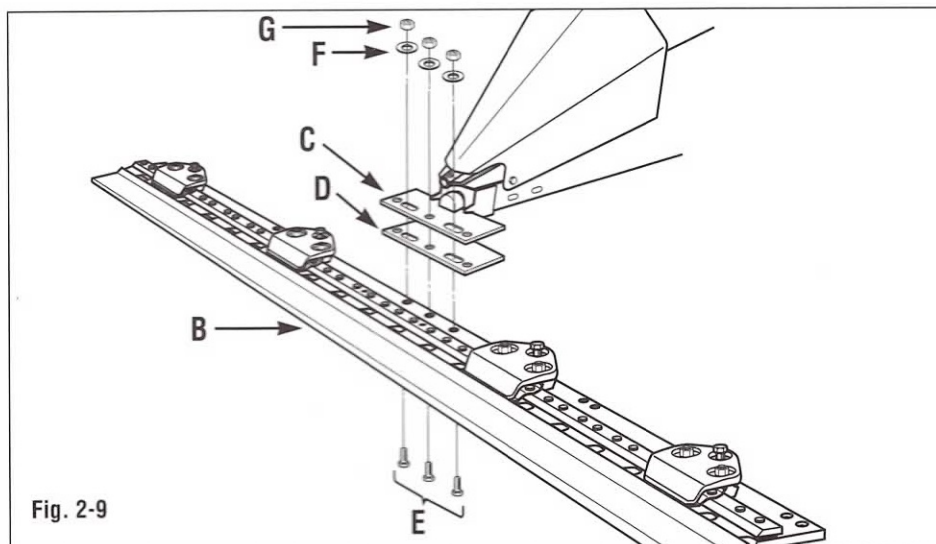

Fig. 2-9
6. Position the cutter bar (B, Fig. 2-9) at the front of the cutter bar mounting bracket (C) as shown. Place the doubler bracket (D) on the cutter bar and align the three mounting holes as shown.
7. Apply a small amount of Loctite® Thread Fastener (use only a small amount as a total of five screws need to be coated during the assembly procedure) to the threads of the three 3/8-16 x 1-1/4" hex cap screws (E, Fig. 2-9). Have an assistant hold the unit firmly by the handlebars and raise the front of the unit a few inches off the ground. Securely attach the cutter bar and doubler bracket to the cutter bar mounting bracket with the three hex cap screws (E), 3/8" flat washers (F) and 3/8"-16 center locknuts (G) (torque to 35 ft-lbs if you have a torque wrench). Lower the unit to the ground.